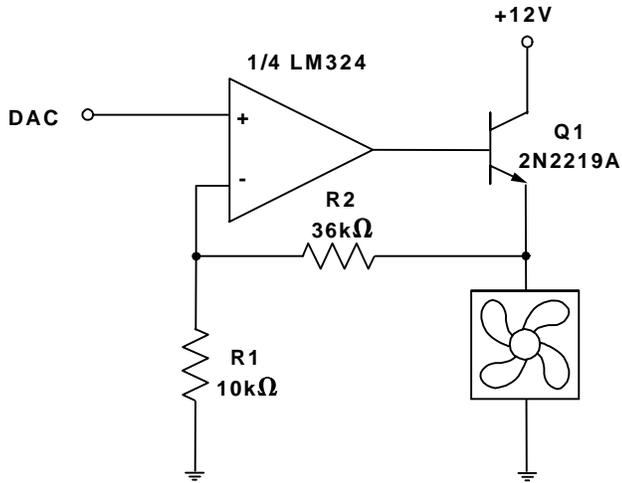

Figure 10a. Fan Drive Circuit with Op-Amp and Emitter-Follower
Suitable fan drive circuits are given in Figures 10a to 10f. When using any of these circuits, the following points should be noted:
1. All of these circuits will provide an output range from zero to almost +12V, apart from figure 10a which loses the base-emitter voltage drop of Q1 due to the emitter-follower configuration.